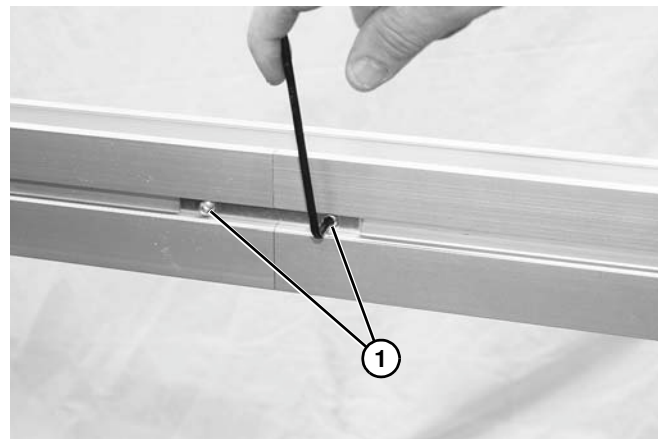

Figure 4
1. Join both conveyor sections, and tighten set screws (**Figure 4, item 1**) on both sides. Tighten all set screws 1/4 turn past contact with frame.